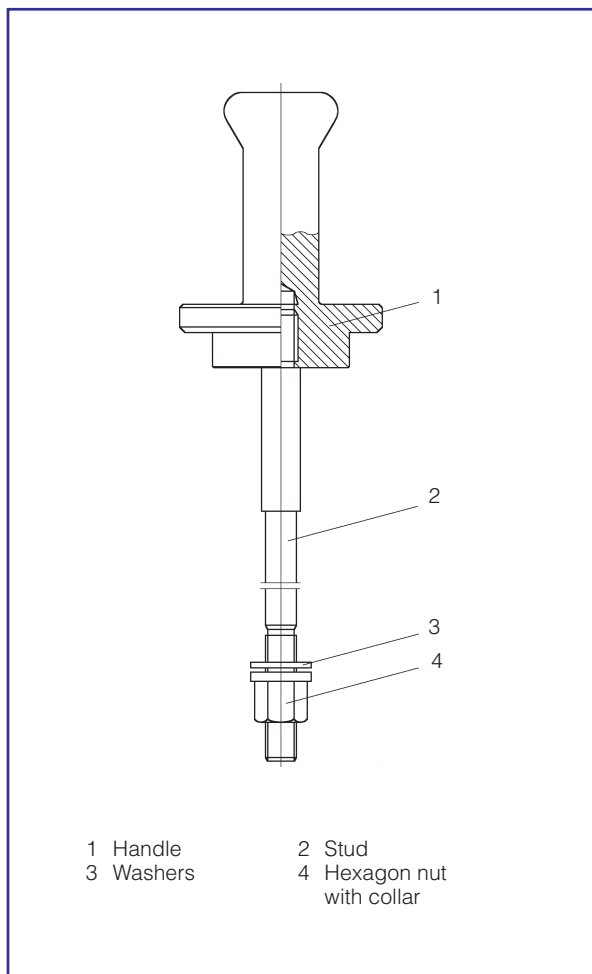

Fig 3
- 2) Tools for mounting of valve seat rings are shown in fig 3.